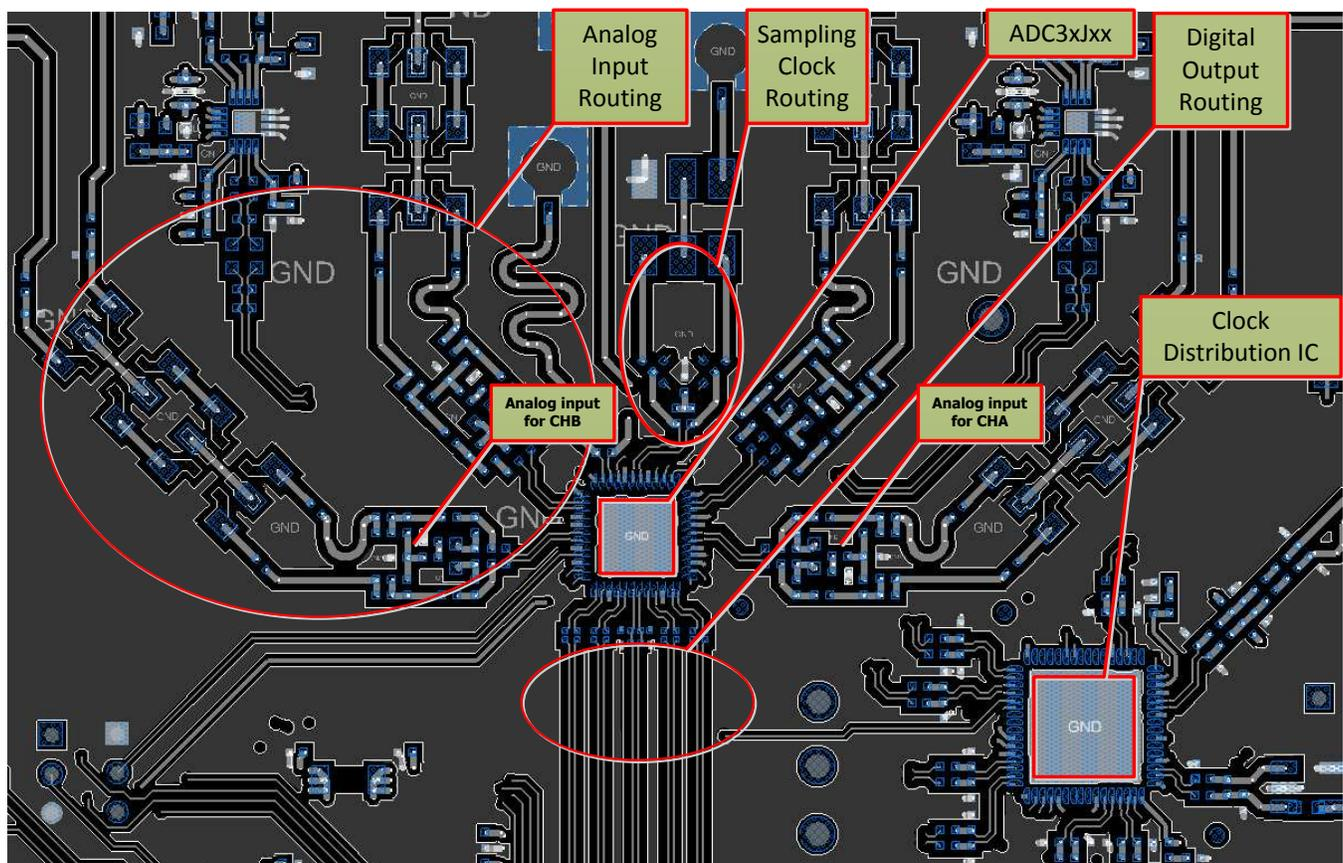

Figure 202. Typical Layout of the ADC32J2x Board
The ADC32J2x EVM layout can be used as a reference layout to obtain the best performance. A layout diagram of the EVM top layer is provided in Figure 202. Some important points to remember when laying out the board are:
1. Analog inputs are located on opposite sides of the device pin out to ensure minimum crosstalk on the package level. To minimize crosstalk onboard, the analog inputs must exit the pin out in opposite directions, as shown in the reference layout of Figure 202 as much as possible.
2. In the device pin out, the sampling clock is located on a side perpendicular to the analog inputs in order to minimize coupling between them. This configuration is also maintained on the reference layout of Figure 202 as much as possible.